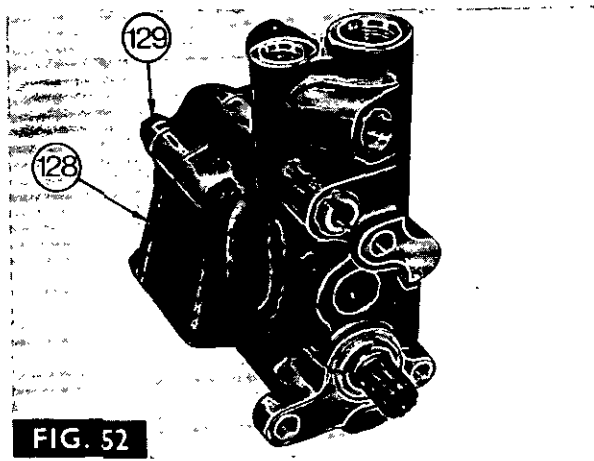

FIG. 52
10. Fig 52. Remove the four bolts (129) and spring washers securing the end plate (128) to the auxiliary pump (if fitted).
11. Remove the end plate (128) and then the feed pipe.
4. Fig 52. Refit the end plate (128), with a new seal, and secure with the four bolts (129) and spring washers.